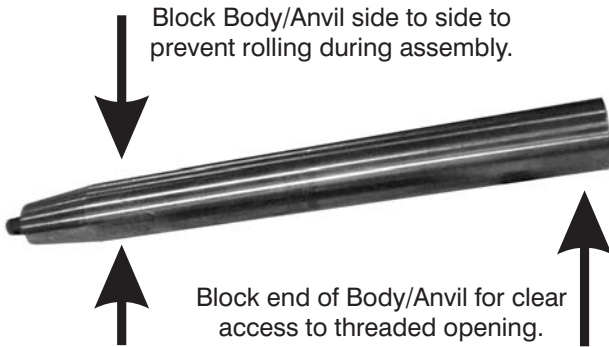
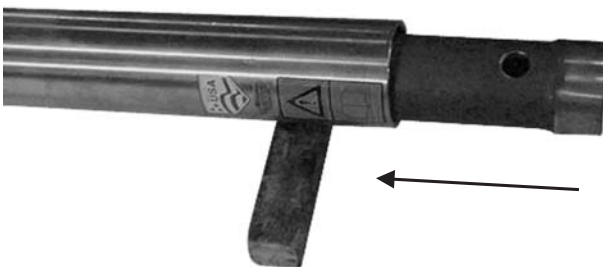

Figure 11-24. Blocking the Body/Anvil
Figure 11-25. Install Striker into Body/Anvil.
- 1. Place the Body/Anvil (1) on the work surface. Block so the open end is easily accessible and the Body/Anvil will not accidentally roll off the work surface. Refer to Figure 11-24.
- 2. If the Striker (2) has been removed from the Body/Anvil for cleaning:
- a. Lightly coat the Striker with hydraulic fluid before re-installing it into Body/Anvil (1).
- b. Refer to Figure 11-25, and slide the Striker (2) into the Body/Anvil (1). The back end of the Striker should be about 6 in. to 8 in. past the threads of the Body/Anvil.